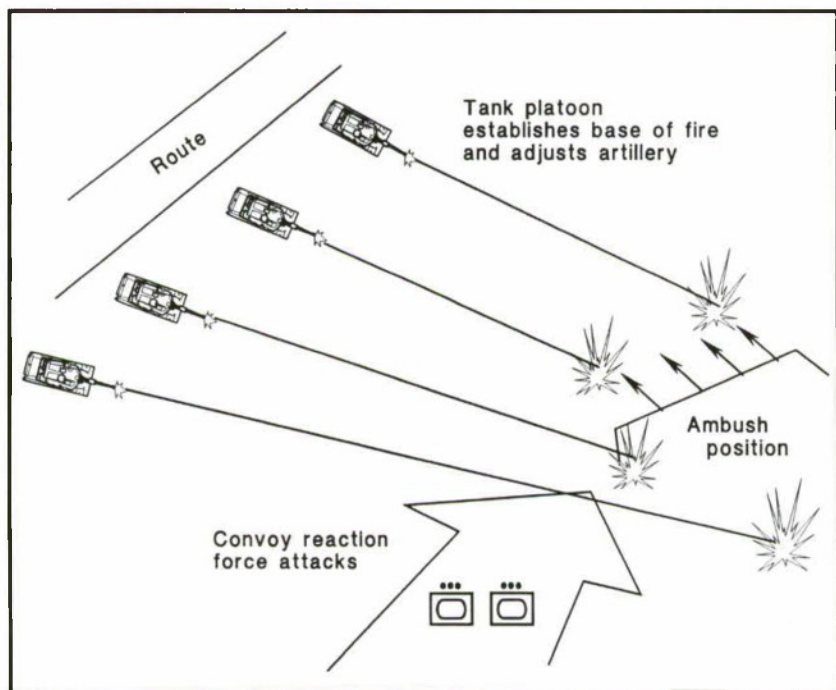

Figure 5-9A. Escort suppresses ambush for reaction force attack.
- Continue to suppress the enemy as combat reaction forces move to support (see Figure 5-9A).